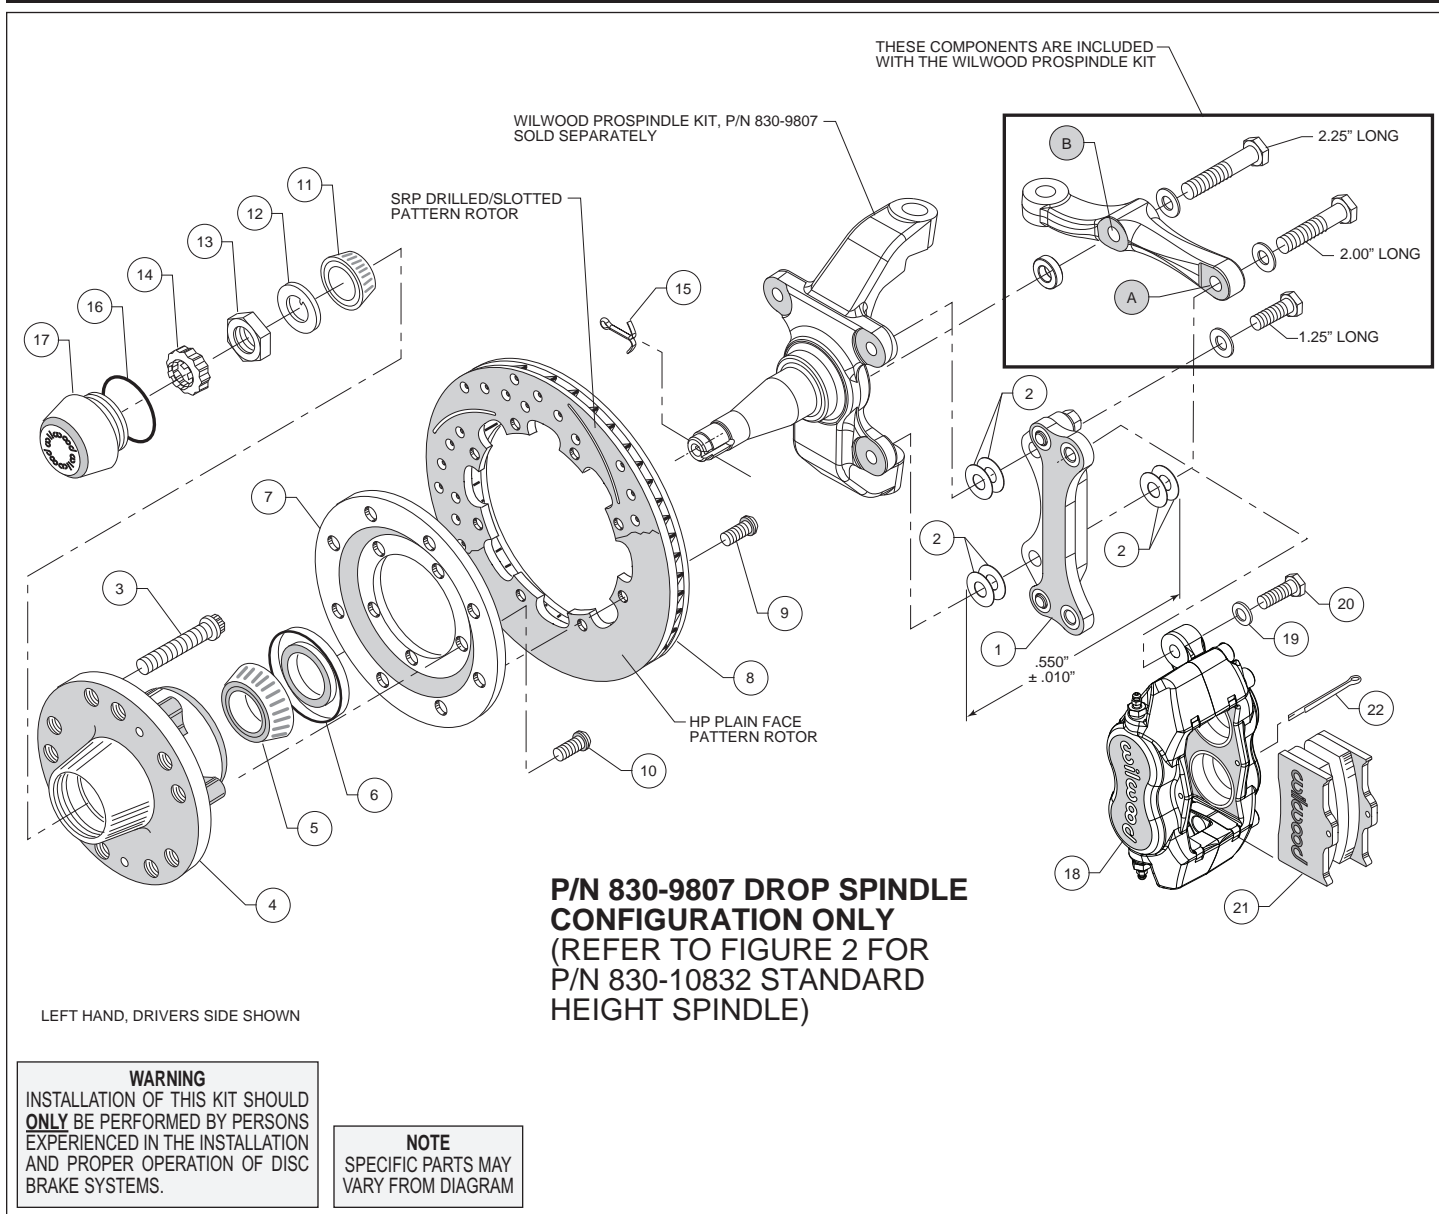
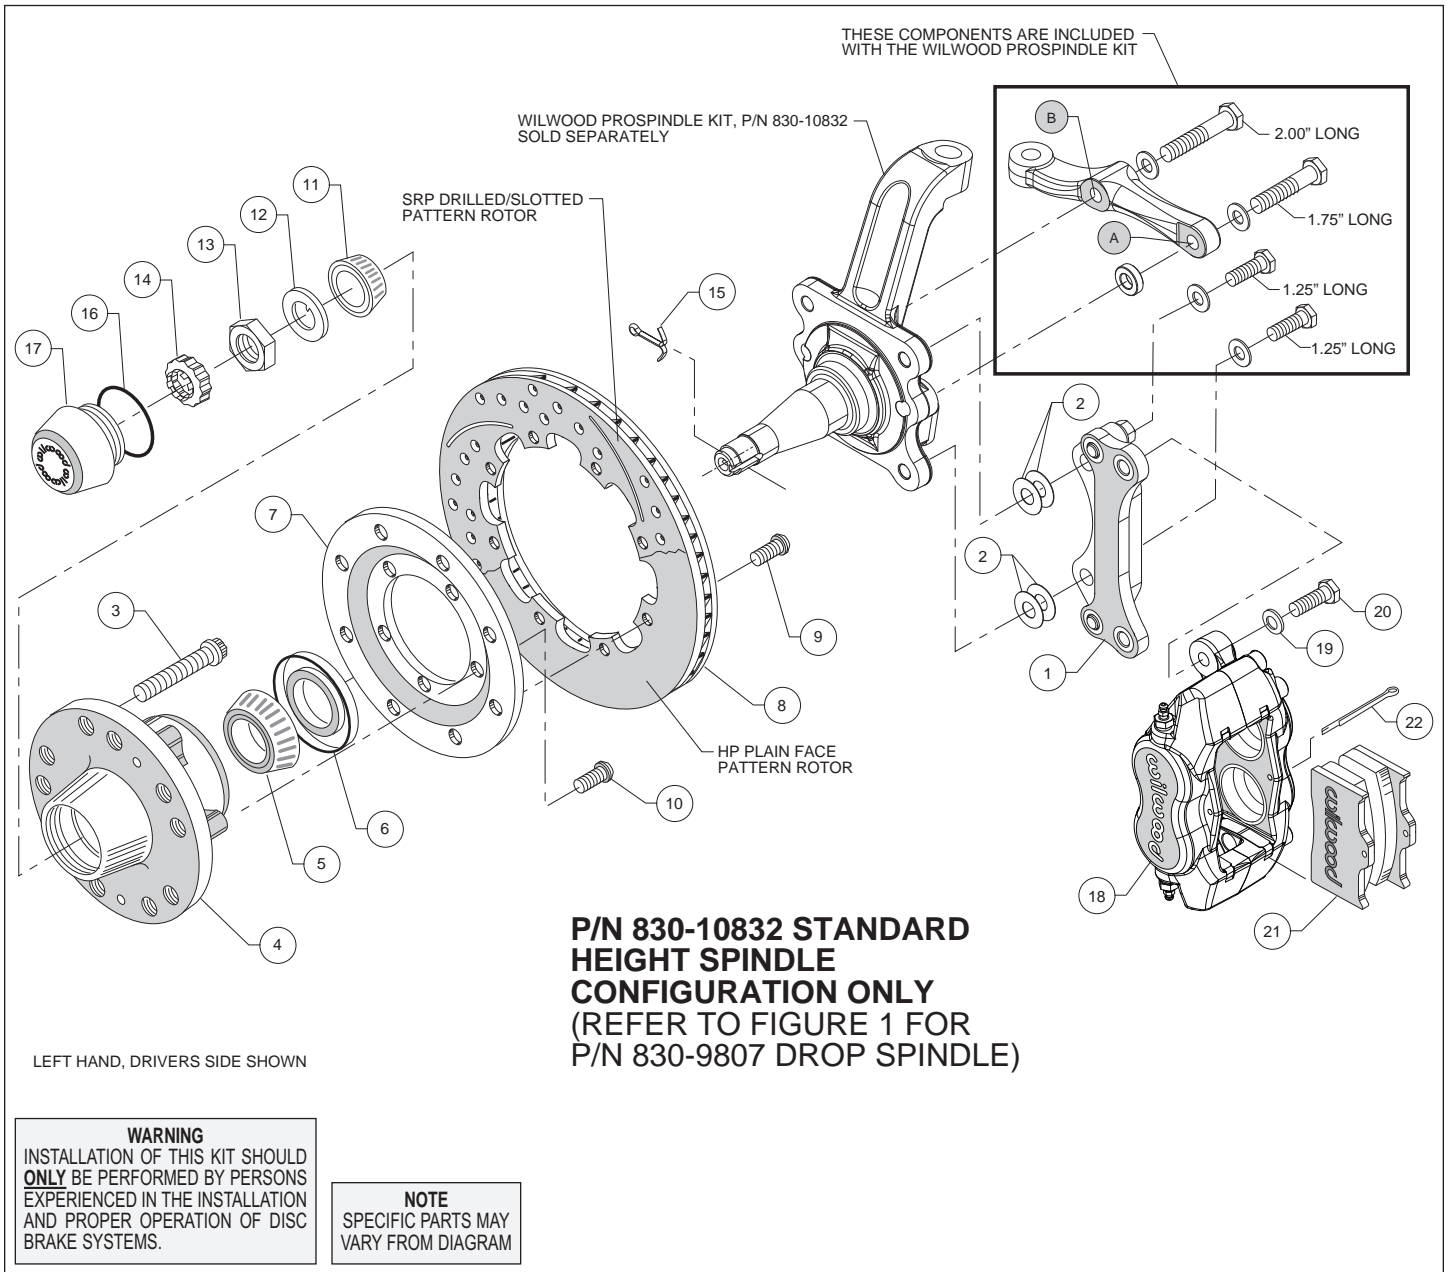

Figure 1. Installation Configuration For Drop Spindle, P/N 830-9807
Figure 2. Installation Configuration For Standard Height Spindle, P/N 830-10832
**Assembly Instructions** (numbers in parenthesis refer to the parts list and Figures 1 and 2 on the preceding pages):
•**NOTE:** Each Wilwood ProSpindle kit includes bolts, washers, and a spacer to mount the steering arm and caliper bracket. The various bolts are identified by length in the following instructions and in Figures 1 and 2.
**For 2" Drop ProSpindle (P/N 830-9807):** The caliper bracket assembly (1) should initially be installed with clean, dry threads on the mounting bolts.
- Orient the bracket as shown in Figure 1 and Photo 1. Install at top spindle hole using 1.25" long bolt and .06" thick washer (from ProSpindle kit), and two .016" thick shims (2) between the bracket and spindle, Figure 1.
- Orient the steering arm, and identify the hole marked 'A', as shown in Figure 1. Install at bottom spindle hole using 2.00" long bolt, .06" thick washer (from ProSpindle kit), two .016" thick shims (2) between the steering arm and the bracket, and another two more .016" thick shims (2) between the bracket and spindle, Figure 1. The bracket is located between the steering arm and spindle. **NOTE:** The bracket and shim washers must add up to a total thickness of .550" ± .010", Figure 1.
- Finish attaching the steering arm through the hole marked 'B', as shown in Figure 1. Install using 2.25" long bolt, .06" thick washer, and .25" thick spacer (all from ProSpindle kit), Figure 1.
**For Standard Height ProSpindle (P/N 830-10832):** The caliper bracket assembly (1) should initially be installed with clean, dry threads on the mounting bolts.
- Orient the bracket as shown in Figure 2 and Photo 2. Install using 1.25" long bolts and .06" thick washers (from ProSpindle kit), and two .016" thick shims (2) on each bolt between the bracket and spindle, Figure 2. Temporarily tighten mounting bolts. **NOTE: The bracket must fit squarely against the mounting points on the spindle.** Inspect for interference from casting irregularities, machining ridges, burrs, etc. Later, after the caliper alignment has been checked, the mount bolts will be secured using red *Loctite*® 271.
- Orient the steering arm, and identify the hole marked 'A', as shown in Figure 2. Install using 1.75" long bolt, .06" thick washer, and .30" thick spacer (all from ProSpindle kit), Figure 2.
- Finish attaching the steering arm through the hole marked 'B', as shown in Figure 2. Install using 2.00" long bolt and .06" thick washer (from ProSpindle kit), Figure 2.
- Install wheel studs (3) into the hub (4), Photo 3. Torque to 77 ft-lb. **NOTE: There are two lug patterns of five holes each in the hub (5 x 4.50 and 5 x 4.75).** Make sure of the correct hole pattern for the wheel application before installing the studs into the hub.
- Pack the large inner bearing cone (5) with high temperature disc brake bearing grease (available from your local auto parts store) and install into the backside of the hub (4), Photo 4.
- Install the grease seal (6) by pressing into the backside of the hub (4), flush with the end of the hub, Photo 4.
- Orient the rotor (8) and the rotor adapter (7) as shown in Figure 1 or 2 and Photo 5. Attach the rotor to the adapter using bolts (9). Using an alternating sequence, apply red *Loctite*® 271 to the threads, and torque to 25 ft-lb.
- Mount the adapter/rotor assembly (7 and 8) to the hub (4) using bolts (10), as shown in Figure 1 or 2 and Photo 6. Using an alternating sequence, apply red *Loctite*® 271 to the threads, and torque to 45 ft-lb.
- Pack the small outer bearing cone (11) with high temperature disc brake bearing grease and install into front of hub (4). Slide the hub assembly onto the spindle. Secure using spindle washer (12) and spindle nut (13), Photo 7. Bearing adjustment: Tighten the nut while turning the hub. When there is a slight bind on the bearings, they are seated correctly. Back the nut off about 1/6 to 1/4 of a turn, or sufficiently to allow .001" to .007" end play. **WARNING: Failure to back off adjusting nut could cause bearing to run hot and be**
- Screw dust cap (17) into hub (4), Photo 8. Friction created by the o-ring (16) on the dust cap keeps it from unscrewing.
- NOTE:** Please reference the caution statement at the beginning of the assembly instructions. Mount the caliper (18) onto the caliper mounting bracket (1) using bolts (20) and washers (19), as shown in Figure 1 or 2. Temporarily tighten the mounting bolts and view the rotor (8) through the top opening of the caliper. The rotor should be centered in the caliper, Photo 9. If not, proceed as follows:
- Adjust by adding or subtracting shims (2) between the bracket and the spindle. Always use the same amount of shims on each of the two bolts between bracket and spindle.
- For the lower bracket mount bolt, if a shim was added between the bracket and spindle, then a shim must be removed between the steering arm and bracket, such that the total thickness of bracket and shims remain equal to  $.550 \pm .010$ ", Figure 1.